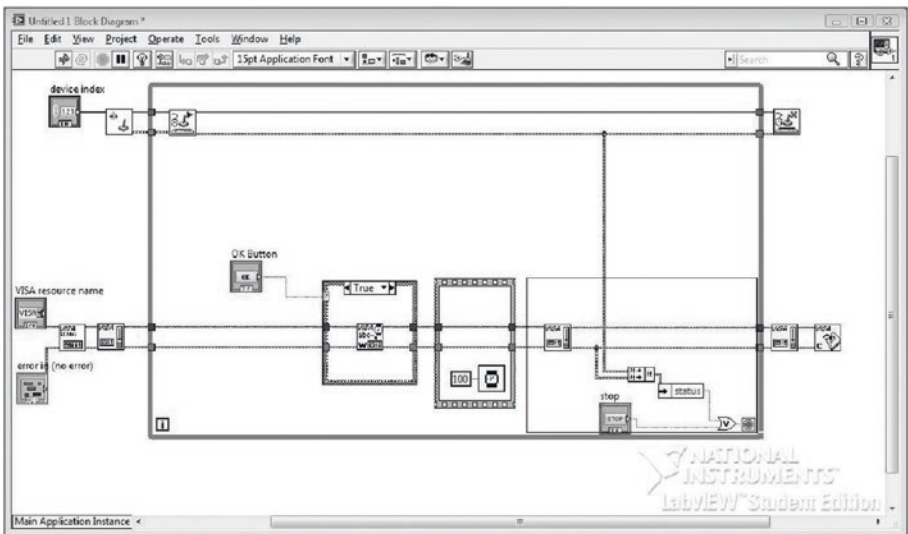

Figure 10-26. Complete the While Loop by adding in stop conditions
4. Then, attach the error out terminal from the VISA Flush I/O Buffer Function (the one inside the While Loop) to the second terminal on the Merge Errors Function. Figure 10-26 shows the completed While Loop condition.